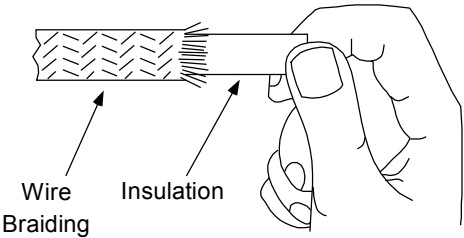

Figure 3.3.2F
- 3. Remove cut silicone insulation by rotating clockwise off coiled conductor (See Figure 3.3.2F).